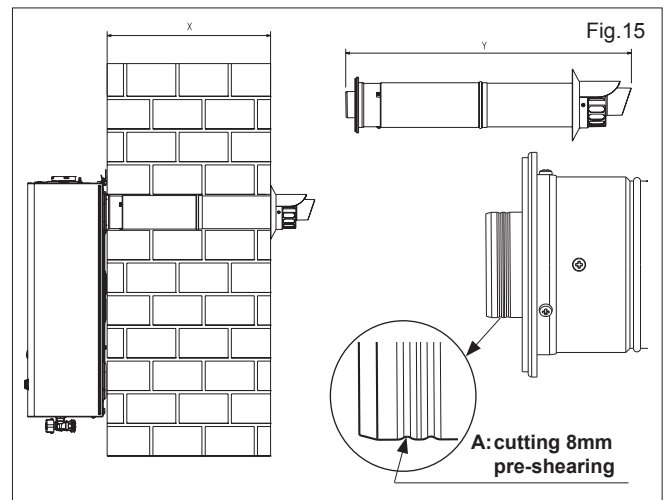

Fig. 15
**5.5.1.2 FITTING THE REAR FLUE (fig. 15) (rear flue outlet only)**
**NOTE:** The inner 60mm pipe of the rear flue terminal must be cut by 8mm at the point indicated (fig. 15 pos. A).